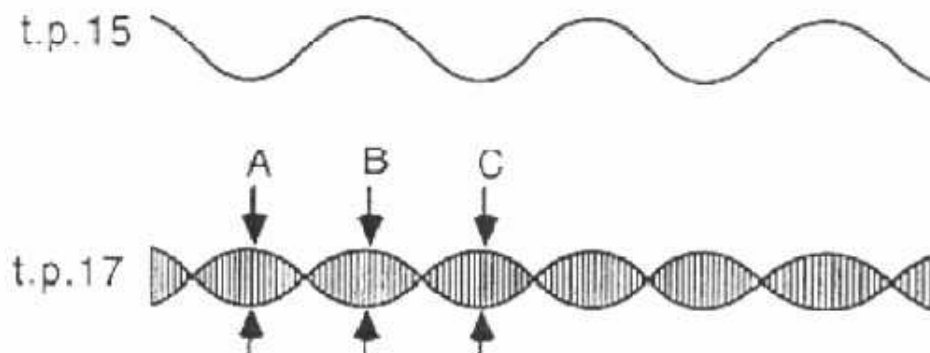

Figure 2: Modulating and Modulated Signal waveforms
6. Next, examine the output of the balanced modulator block (at t.p.17), together with the modulating signal at t.p.15 trigger the oscilloscope on the modulating signal. Check that the waveforms are as shown Fig. 2.